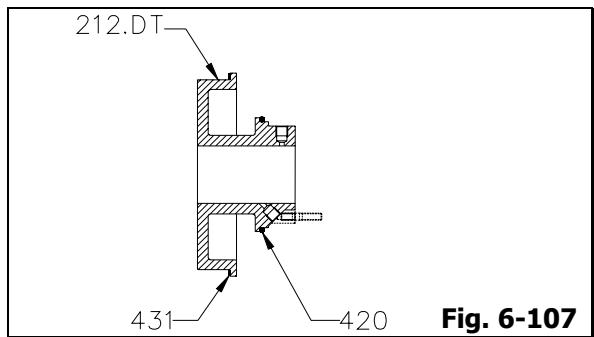

Fig. 6-107
18. Install stuffing box cover "O" ring (420), stuffing box cover gasket (431) and two (2) seal cover studs into stuffing box cover (212.DT) (Fig. 6-107).